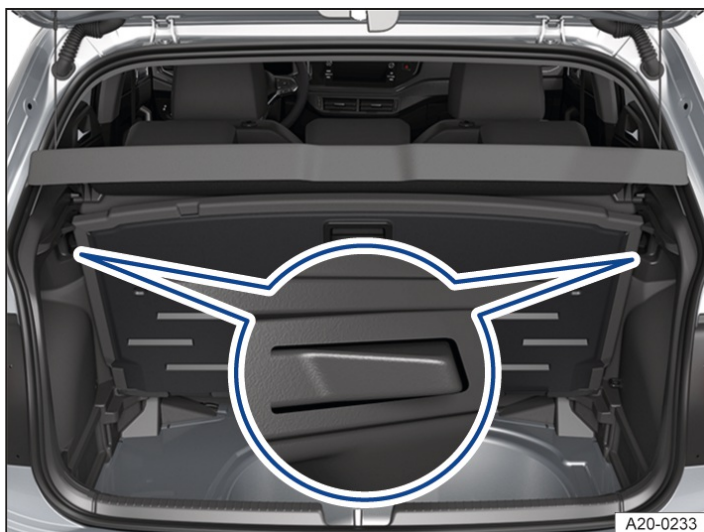

Fig. 2 In the luggage compartment: locking the variable luggage compartment floor in position.
2. To lock the luggage compartment floor in position, lift it up until it is held in position by the side restraints → *Fig. 2* (close-up).